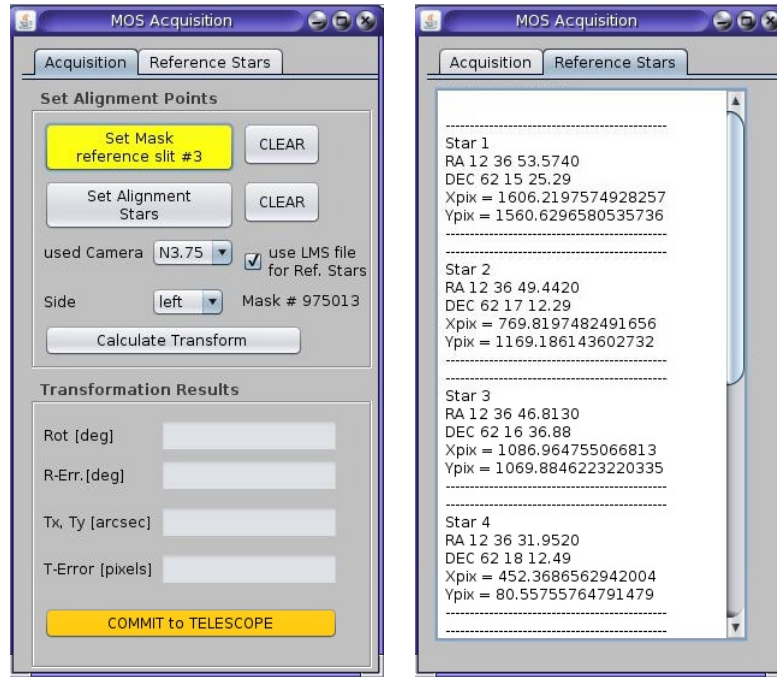

Figure 32: MOS Acquisition panel after selection of the reference slit #3.
- If the above described steps have been done properly, in the MOS ACQUISITION GUI, the SET MASK REFERENCE SLIT #3 will turn yellow (Fig. 32 left) and the REFERENCE STARS subsection shows now the coordinates of the reference stars as well as the expected (x,y) positions of these stars on the detector (Fig. 32 right).